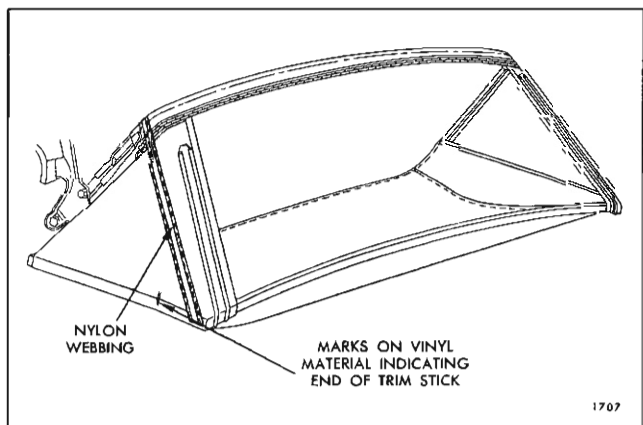

Fig. 2-I-9—Marking Back Curtain Material
Install pad to center bow with screws. Make sure inboard edge of pad is properly aligned within depression in bow. Install stay pad wadding in conventional manner using an approved trim cement. (See Fig. 2I10).
3. Trim selvage end of side stay pads just forward of rear rolled edge of rear roof bow (Fig. 2I11).